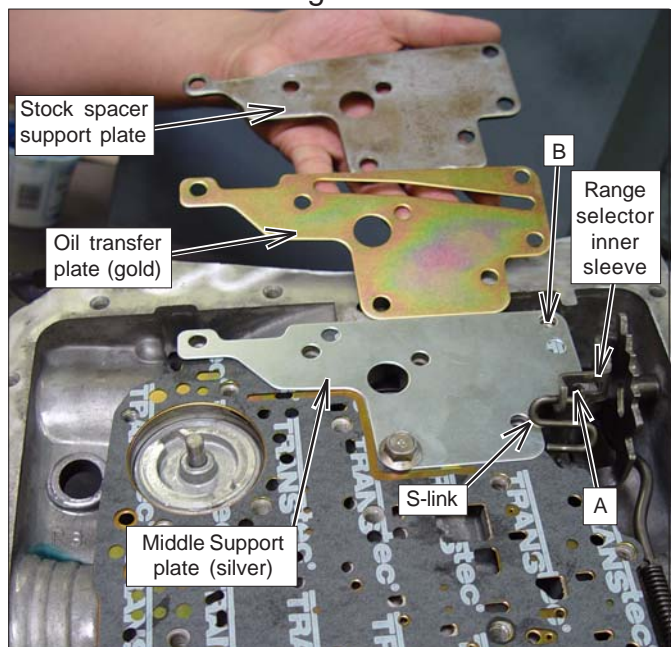

Figure 9
Install each checkball in place using grease to hold it in position. Do not install remaining checkballs. Install gasket/separator plate assembly in position and use a pan bolt finger tight in the middle to hold the assembly in place. (see Fig. 9)
STEP 14. Install B&M middle support plate (silver color) in position against separator plate gasket at front of transmission. (See Fig. 9). On top of middle support plate (gold color). Note that the two (2) holes in the middle support plate and slot in the oil transfer plate line up with the two holes in the separator plate and plate gasket. On top of oil transfer plate install your stock spacer support plate. (The order of the plates must be correct!). Install the support plate bolts finger tight. Align separator plate bolts with transmission case bolt holes. Holding separator plate in position, tighten the seven (7) support plate bolts to 100 in. lbs.
For "S" link model manual valve only (See Fig. 4): Rotate the range selector inner lever noting clearance with bolt 'A' (See Fig. 9). If range selector inner lever contacts bolt 'A' head or there is not a 1/16" clearance between the two, mark that area of bolt head. Remove bolt & grind or file angle flat at that portion of bolt head. Reinstall bolt & check clearance again. Failure to provide clearance may keep transmission shifter from fully shifting or locking up between drive & 2nd.
STEP 15. Remove center pan bolt. Guide valve body into position. Engage manual valve linkage in selector lever. The "S" link can only be installed one way. Offset linkage must be installed with the link in the forward position. (See Fig. 4). Install valve body bolts finger tight. Install detent roller spring so it engages range selector inner lever. Tighten valve body bolts to 100 in. lbs. Make sure range selector inner lever operates freely at this point with positive indexing in each gear. **"S linkage model"** manual valve only (See Fig. 4): Rotate range selector inner lever all the way forward and check to see that bolt 'B' does not prevent range selector inner lever from going into last detent slot. (See Fig. 9).